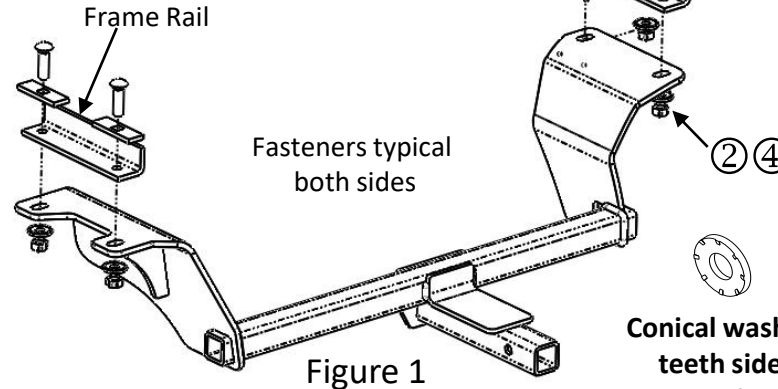

Figure 1
- Install hitch** - Raise the hitch into position, line up the hitch slots with the attachment holes and install the nut and conical washer (teeth side toward hitch) on both sides and hand tighten them as shown Fig 1.